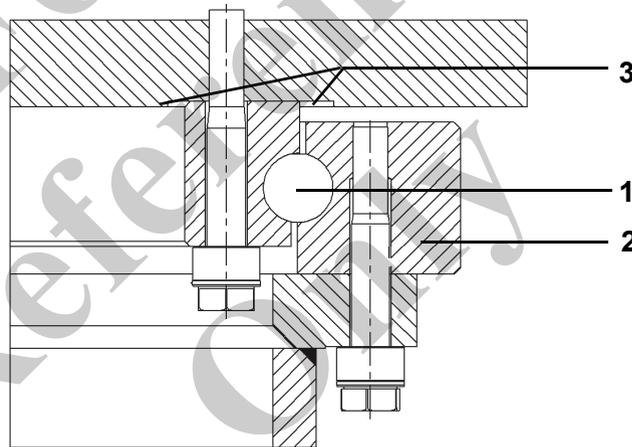

Fig. 226 Rotary connection components
- Bearing race (1) in Fig. 226
- Gearing (2) in Fig. 226
- Seal (3) in Fig. 226